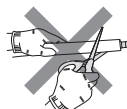
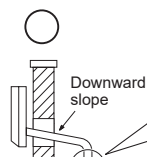

Fig. 1
Fig. 2
- Attach conduit pipe (for rear piping) / elbow joint (for right, left, or downward piping) to conduit plate with lock nut. The thread of the installed conduit pipe / elbow joint appearing inside should be less than 3/8 inch (10 mm). (Fig. 1) Elbow joint should appear less than 1-3/16 inches (30 mm) outside. (Fig. 2)
- Do not cut the drain hose of the unit. (Fig. 1)
- The drain hose should point downward for easy drain. (Fig. 2)
- 1) Cut the copper pipe as straight as possible with a pipe cutter. (Fig. 1, 2)
Removal procedure (Fig. 1)
Installation procedure (Fig. 2)